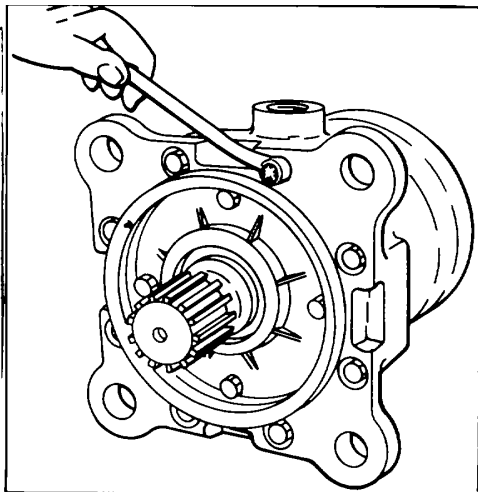

Figure 195.
7. Remove eight hex bolts (36) and lock washers (37) See Fig 195.